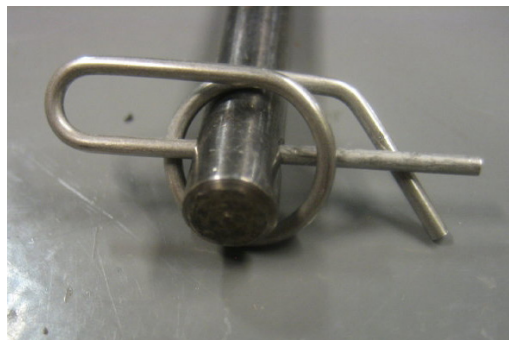

Figure 2
- A. Remove agitator clip and pin from agitator bar (Fig 2).
- E. Reinstall all components. Ensure agitator clip is locked Fig 2.